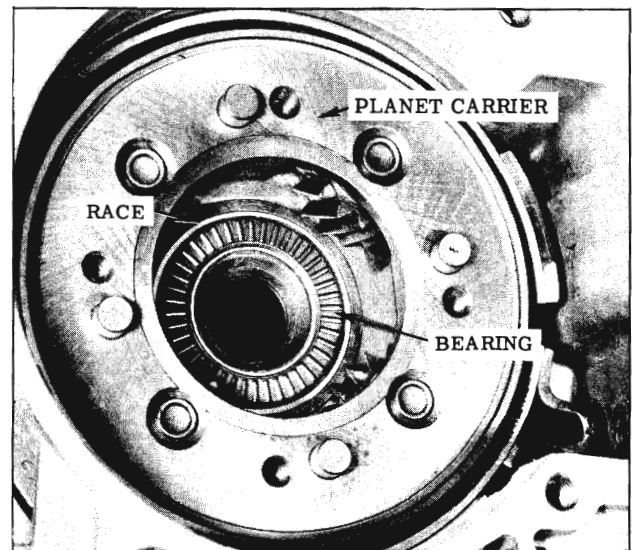

Fig. 3-103 Installing Thrust Bearing
24. Install rear unit sun gear to rear carrier thrust bearing into bearing race. (Fig. 3-103)